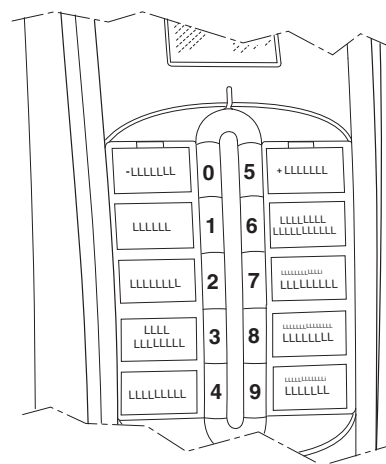

Fig. 11
- Press and hold button number 9 (see Fig. 11) for two seconds.